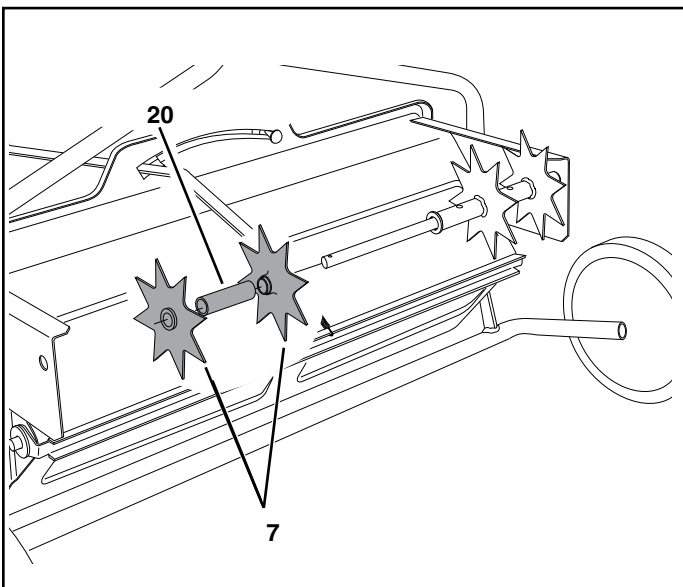

FIGURE 15
- Place two spike disks (7), separated by a long spacer tube (20), onto the shaft. Fit the long spacer tube onto the ends of the flanged bearings in the disks. See figure 15.